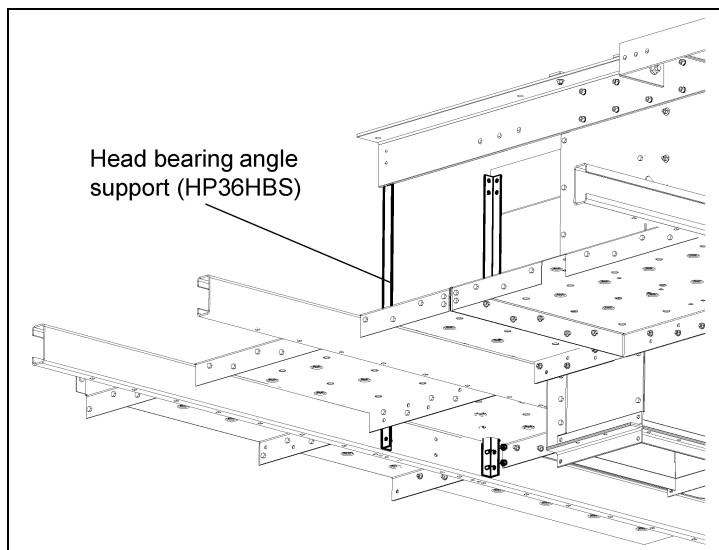

Figure 10A 36" Bearing Support Angle
1. Place two (2) head bearing angle supports (HP36HBS) as shown in Figure 10A.